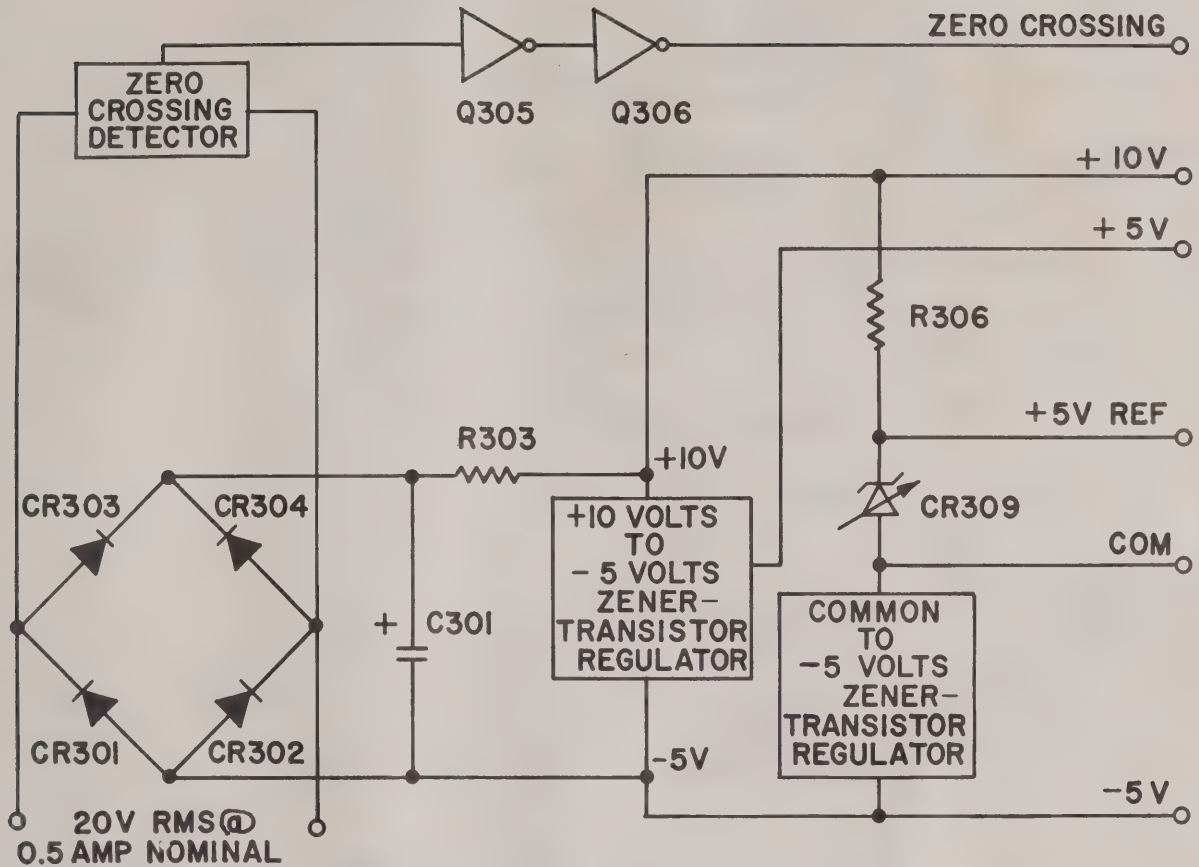

Figure 4-2. Simplified Schematic; Power Supply Board
a. Power Supply Board. The power supply board provides operating voltages for the charge control circuitry. Figure 4-2 is a simplified schematic diagram of the circuitry of the power supply board. Complete circuit details can be found in figure 5-5.